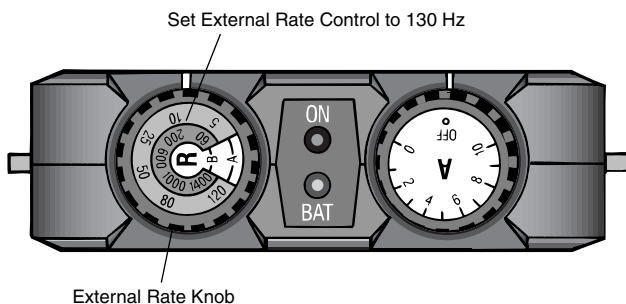

Figure 8. Set External Rate Control to 130 Hz.
- c. Set the External Rate to 130 Hz or as desired (therapeutic range 130-185 Hz).(Figure 8). Do not exceed 185 Hz.